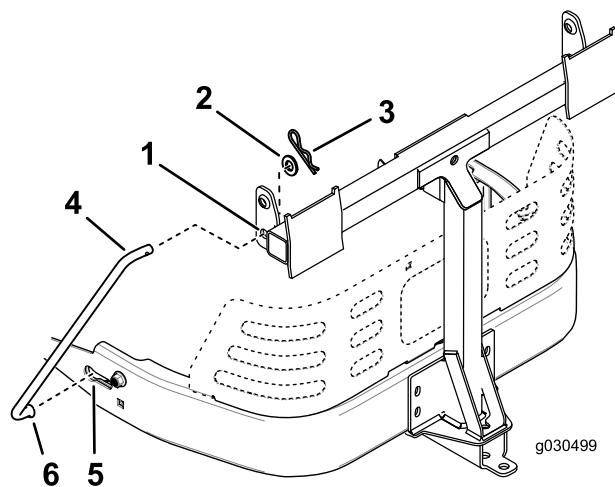

Figure 18
5. Insert the bent ends of the rod into the attachment mount as shown in Figure 18 and secure the end of each rod with a washer and hairpin cotter.
4. Install a bent, flared end of a rod into the keyed slot in the left side of the machine frame, and move the rod rearward to seat it in the frame (Figure 18).